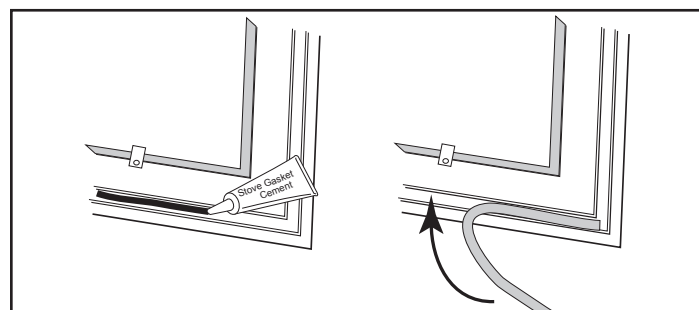

Figure 38 - Lay a bead of gasket cement then press gasket in place.
4. Starting at one end, pack a new gasket into the groove. Where the two ends of the gasket meet, ensure a good joint before trimming any excess. Do not overlap or leave ragged edges. (Figure 38)